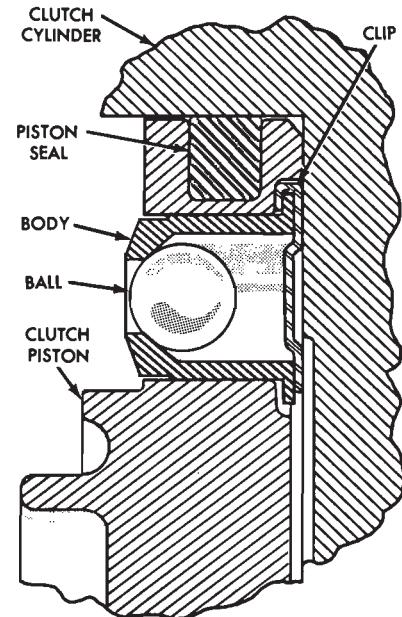

FIG. 27—Clutch Piston Check Valve
2. Check the fluid passage in the clutch cylinder for obstructions. Clean out all fluid passages. Inspect the clutch piston for scores and replace if necessary. Inspect the piston check ball for freedom of movement and proper seating (Fig. 27).